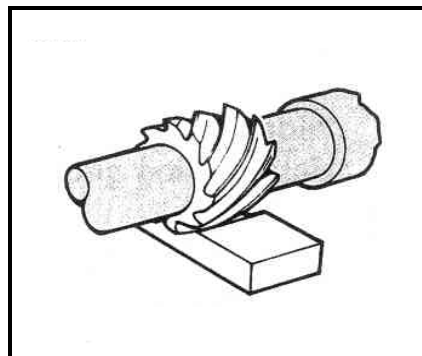

FIGURE 1.2
- D reinforcing acrylic material (1)
- 1.7 Identify the type of milling cutter shown in FIGURE 1.2 below.